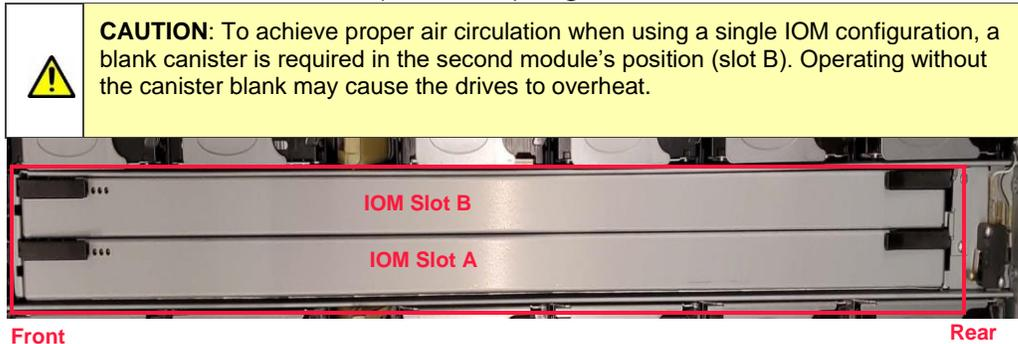

Figure 1.9.1 IOM slot locations
- **Single configuration:** One IOM is installed on the right side of the enclosure (as viewed from the enclosure front) in slot A. One blank filler canister is installed in slot B (on the left). Figure 1.9.1 shows the IOM slot locations.